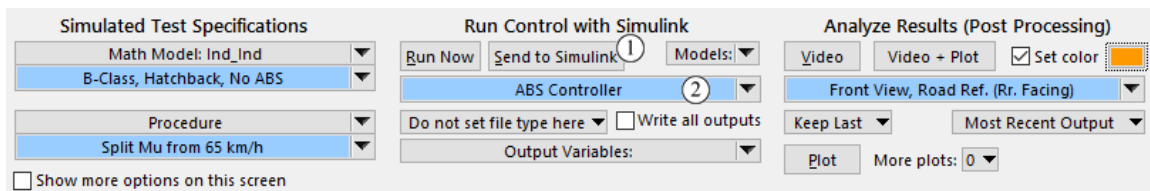

Figure 17. NI-RT VeriStand: ABS Example.
3. Click the **Duplicate** button to copy current data set to a new source. Set the **Category** as RT: NI-RT and set any title you want. In this manual, we will use VeriStand: Ext. ABS, Split Mu for the title (Figure 17).
9. Now you need go back in CarSim to get Import/Export variables information. Click the blue link, ABS Controller (2) in Figure 17) and go to Import Channels/Export Channels to find the import and export variables and record them. The import and export channels are shown in Figure 19 for this example.